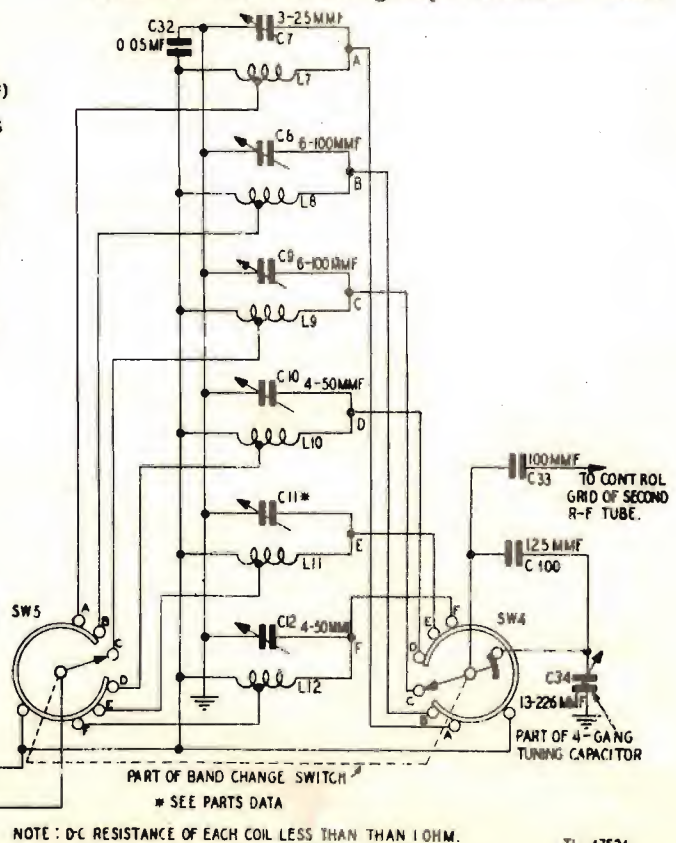

Figure 22. First r-f amplifier, schematic diagram.
**b. VOLTAGE AND RESISTANCE MEASUREMENTS.** The voltage and resistance measurements shown in figure 22 are made from the top of the tube socket with the tubes plugged into an adapter similar to that supplied with some models of Test Set I-56-(\*). When no adapter is available, strip the ends of a short piece of insulated wire; wrap one end around the tube pin at which measurements are to be made. Plug the tube into its socket; connect the meter between the other end of the wire and the chassis to obtain these readings. Avoid grounding the wire to the chassis. Before making resistance measurements remove tubes from their sockets. Make the tests under the following conditions: